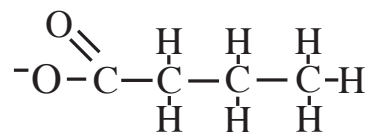

Fig. 19 A soap.
H. Soaps are made from fats by boiling them along with lye, which is a strong hydroxide base of sodium or potassium. The process causes the hydrolysis, that is, the breaking of the fatty acids and glycerol bonds. The fatty acid ion that is a soap is a very long chain of hydrocarbons, but you can make a simulated soap model by simply making the structure you see in Fig. 19.